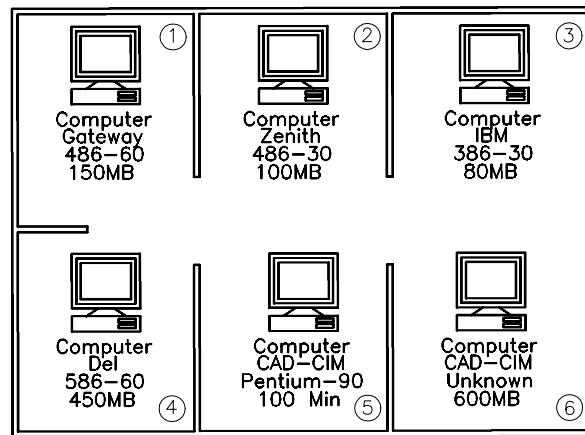

Figure 15-12 The floor plan after inserting blocks and defining their attributes
3. Repeat the **INSERT** command to insert other blocks, and define their attribute values as shown in Figure 15-12.